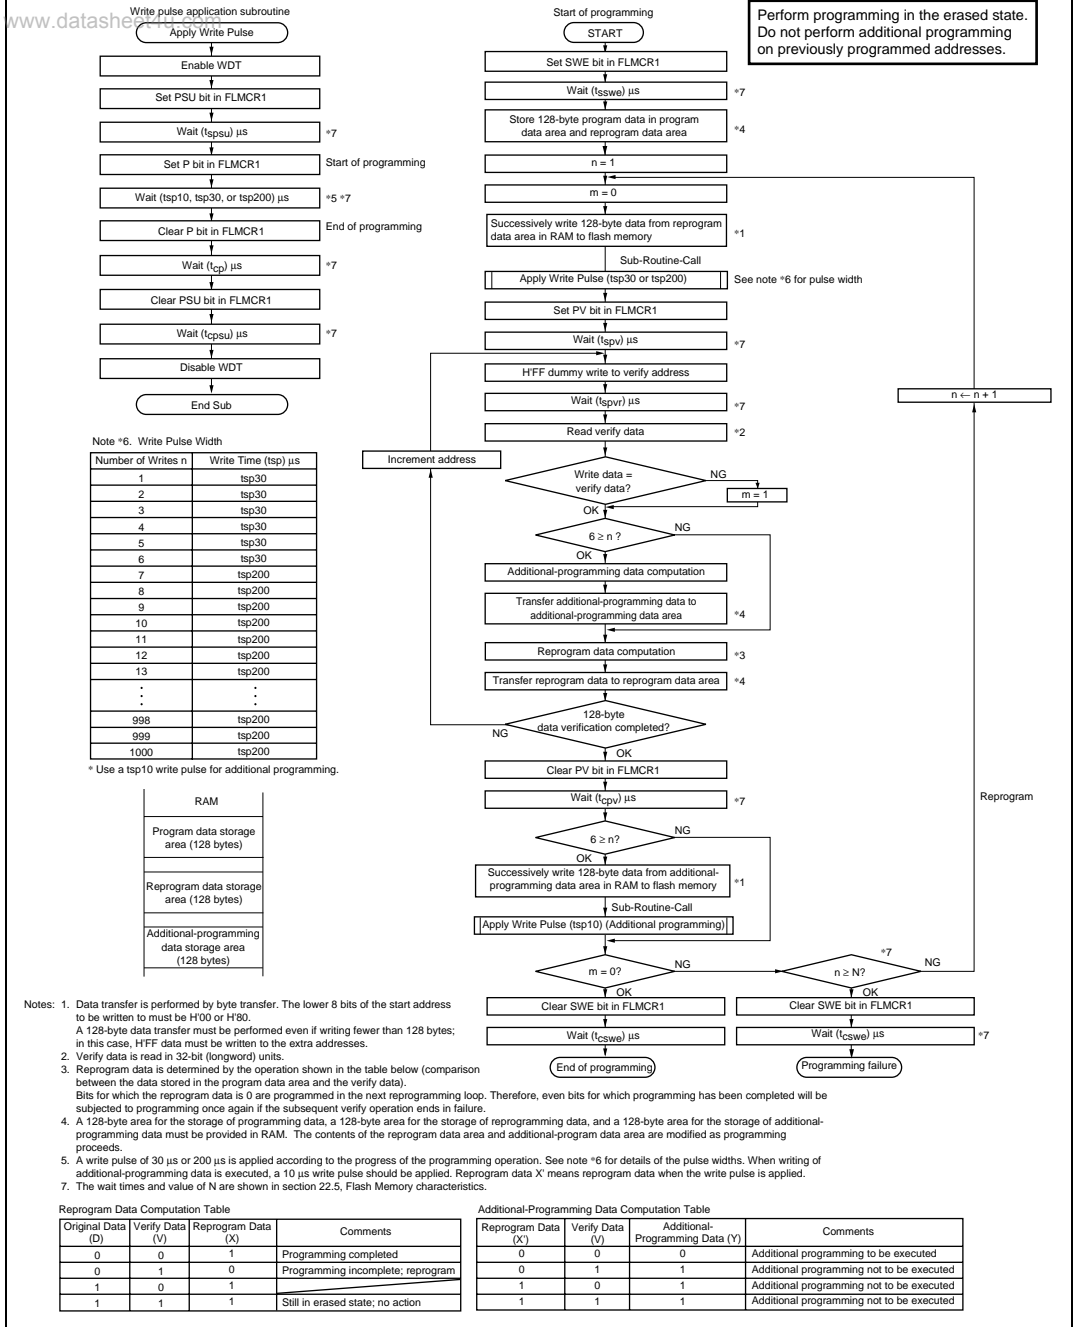

Figure 18.9 Program/Program-Verify Flowchart
When writing data or programs to the flash memory, the program/program-verify flowchart shown in Figure 18.9 should be followed. Performing programming operations according to this flowchart will enable data or programs to be written to the flash memory without subjecting the chip to voltage stress or sacrificing program data reliability.
3. Prepare the following data storage areas in RAM: A 128-byte programming data area, a 128-byte reprogramming data area, and a 128-byte additional-programming data area. Perform reprogramming data computation and additional programming data computation according to Figure 18.9.
5. The time during which the P bit is set to 1 is the programming time. Figure 18.9 shows the allowable programming time.
8. The number of repetitions of the program/program-verify sequence to the same bit should not exceed the maximum number of programming (N).